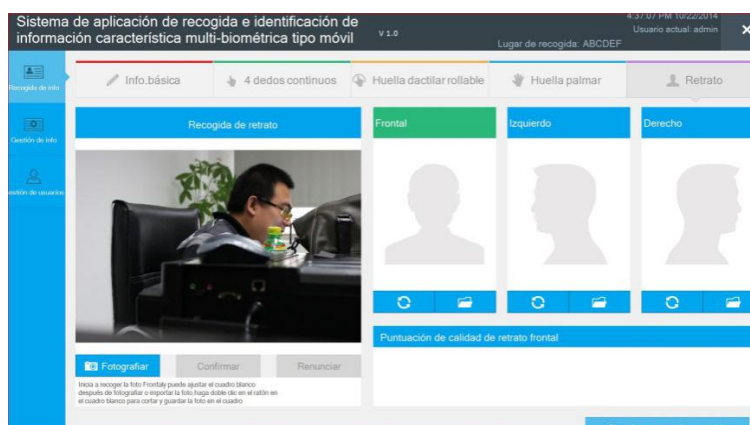

Figure 5.5.2.1
2. After collection of palm-print, it is to click , and enter to Human image interface, the system is in the state of preview, and collection order is positive portrait, the left side of portrait, and the right side of portrait, and click , adjust the frame to the appropriate size, it is to click [OK] or double-click on the border of frame to cut portrait, and the system will automatically evaluate the quality of photo collection, in order to ensure that user can collect the qualified picture. (As shown in figure 5.5.2.1).
In the figure 5.5.2.1, if unsatisfied with collection of human image, it is to click , and return to the preview state, and re-collect human image.